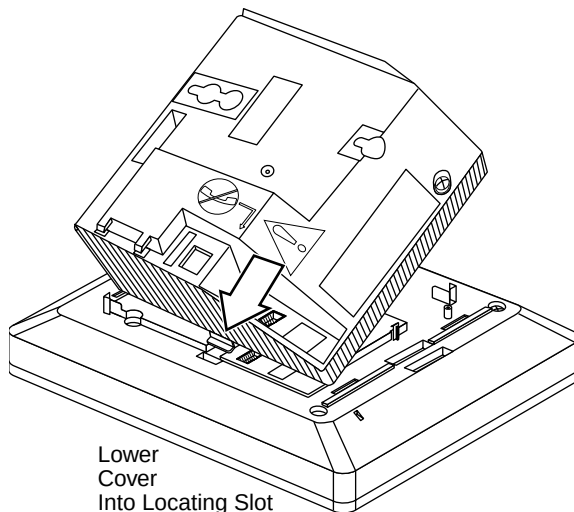
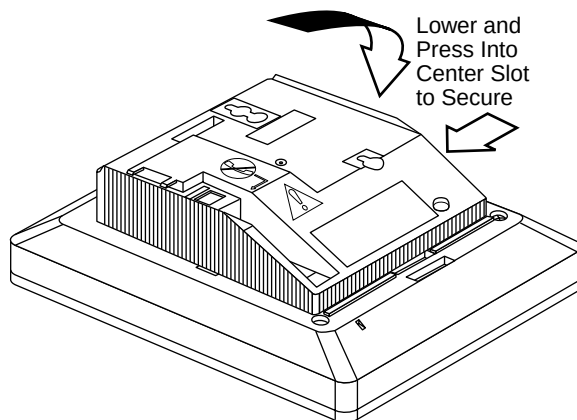
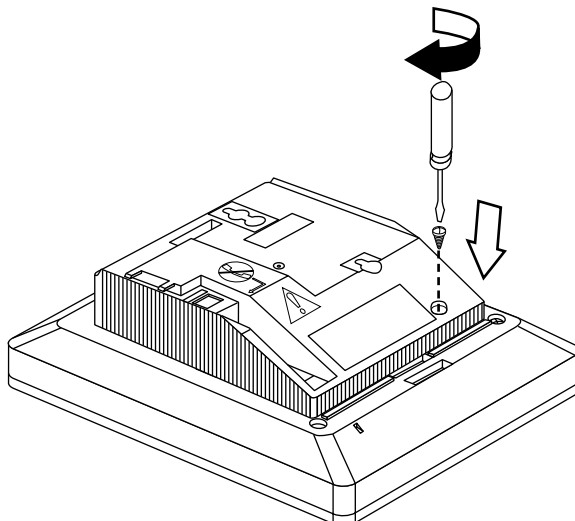

Figure 3-12. Placing the Module Cover into the Locating Slot
Figure 3-13. Lowering and Locking the Module Cover
Figure 3-14. Replacing and Tightening the Module Cover Screw
- **8. To replace the module cover, see Figure 3-12, Figure 3-13, and Figure 3-14.**